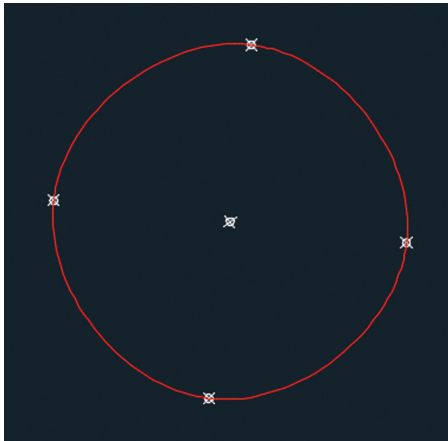

FIGURE 5.16 Snapping spline fit points to point
2. Expand the Draw panel and click the Spline Fit tool at the top left. Toggle on Object Snap mode in the status bar (with Node snap on) and click the top point, the point on the right, the point on the bottom, and then the one on the left. Type C (for Close) and press Enter. The fit curve looks very much like a circle, although it is not perfectly round (see Figure 5.16). This will be the start of an abstract tree representation.